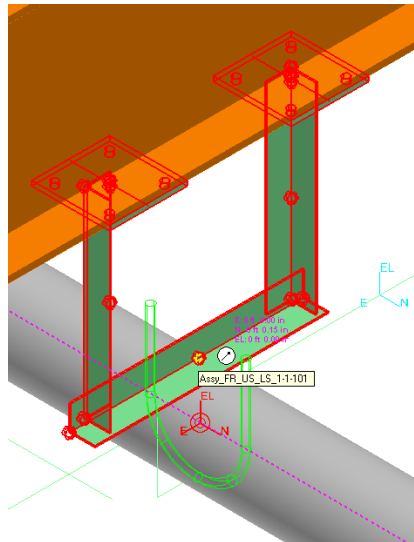

Figure 9: Designed Support Key Point
15. Position and orient the selected part, **Anvil_FIG137_12**, as shown in Figure 9.